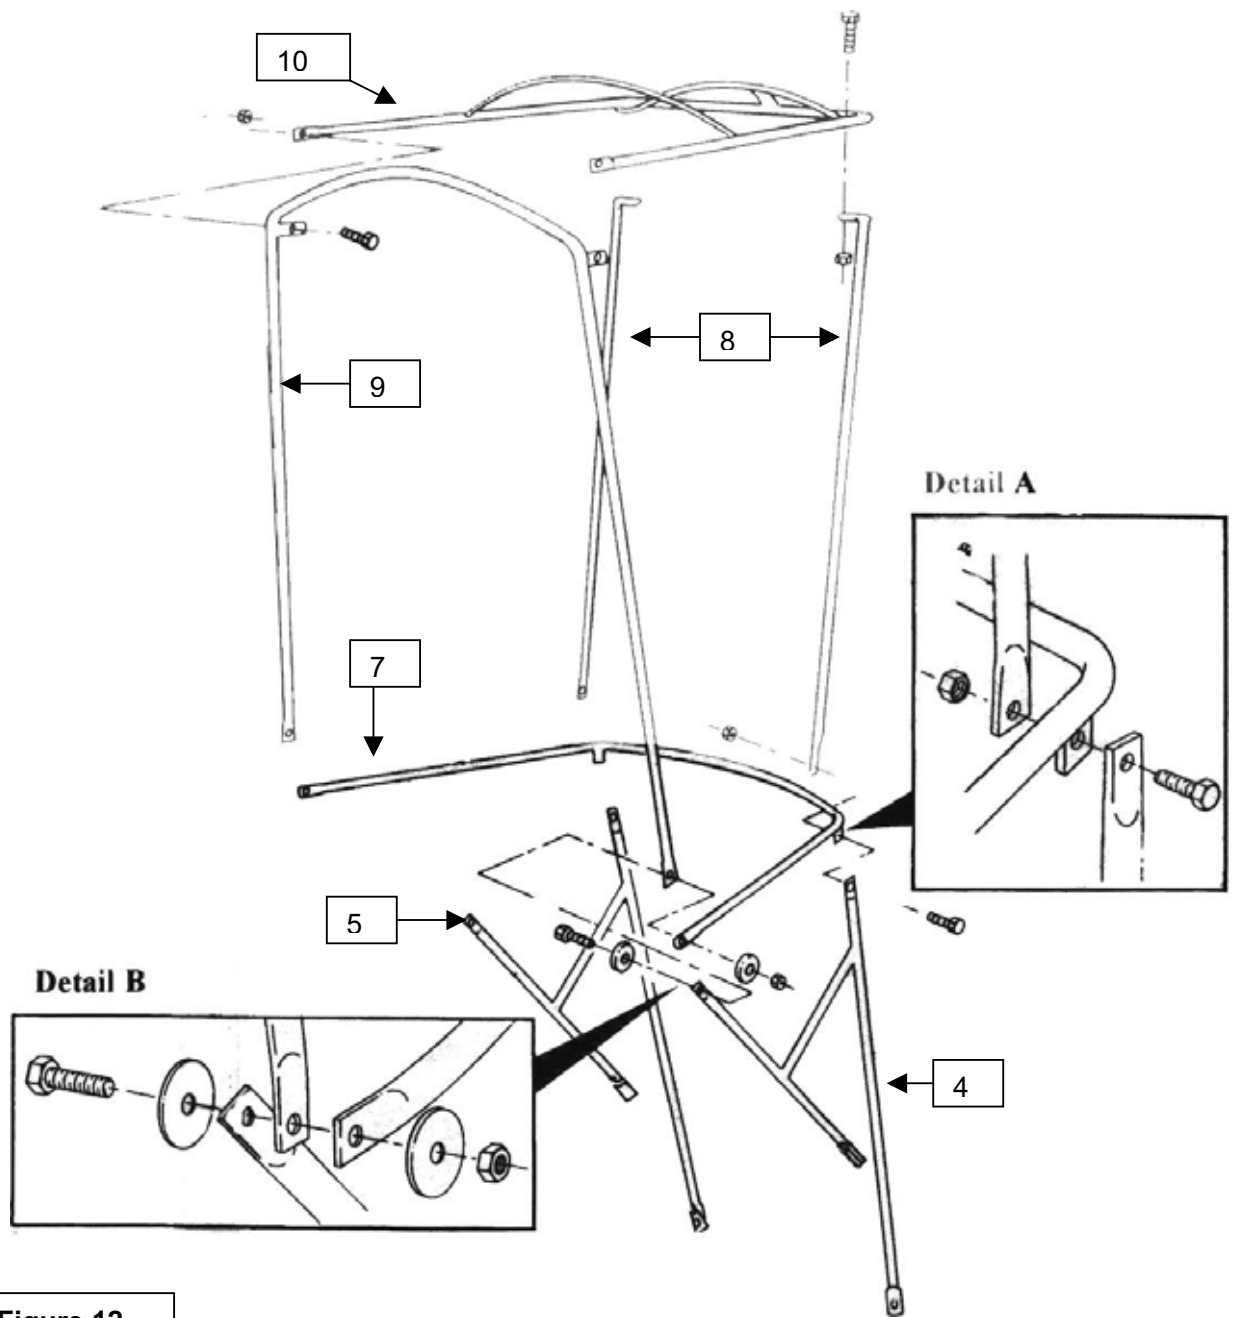

Figure 12
STEP 3; SEE FIGURE 12:
- A.** Attach the Horizontal Curved Bow (7) and the Front Posts (8) to the Brackets (4 & 5) using two 1/4" x 3/4" bolts and locknuts (refer to detail A).
STEP 4; SEE FIGURE 12:
- A.** Mount each leg of the Rear Vertical Bow (9) to the Brackets (4 & 5) and the Horizontal Curved Bow (7) using a 1/4 x 1" bolt, two 1/4" fender washers, and a locknut (refer to detail B).
STEP 5; SEE FIGURE 12:
- A.** Attach the Top Frame (10) to the Rear Vertical Bow (9) and the Front Posts (8) using four 1/4" x 3/4" bolts and locknuts.
- D. Tighten all of the frame bolts making sure that the Rear Vertical Bow (9) is at a 90-DEGREE angle to the Horizontal Bow (7).**